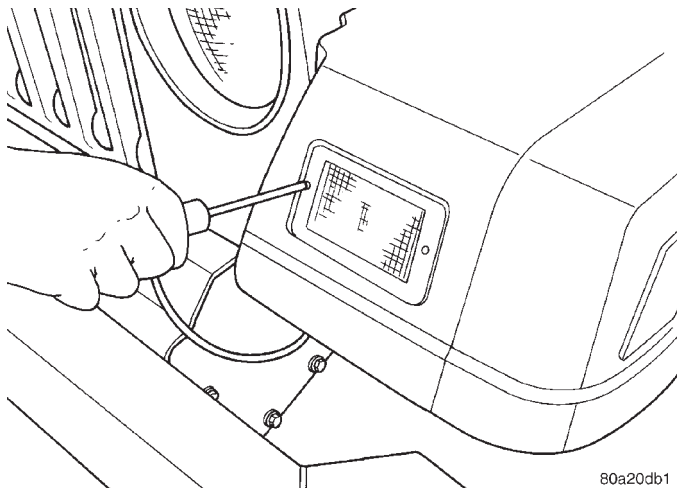

Fig. 4 Park/Turn Signal Lamp
- (1) Remove the park/turn signal lamp housing screws (Fig. 4).
- (2) Separate the park/turn signal lamp housing from the fender.
- (3) Rotate bulb socket one third turn counter-clockwise and separate bulb socket from lamp.